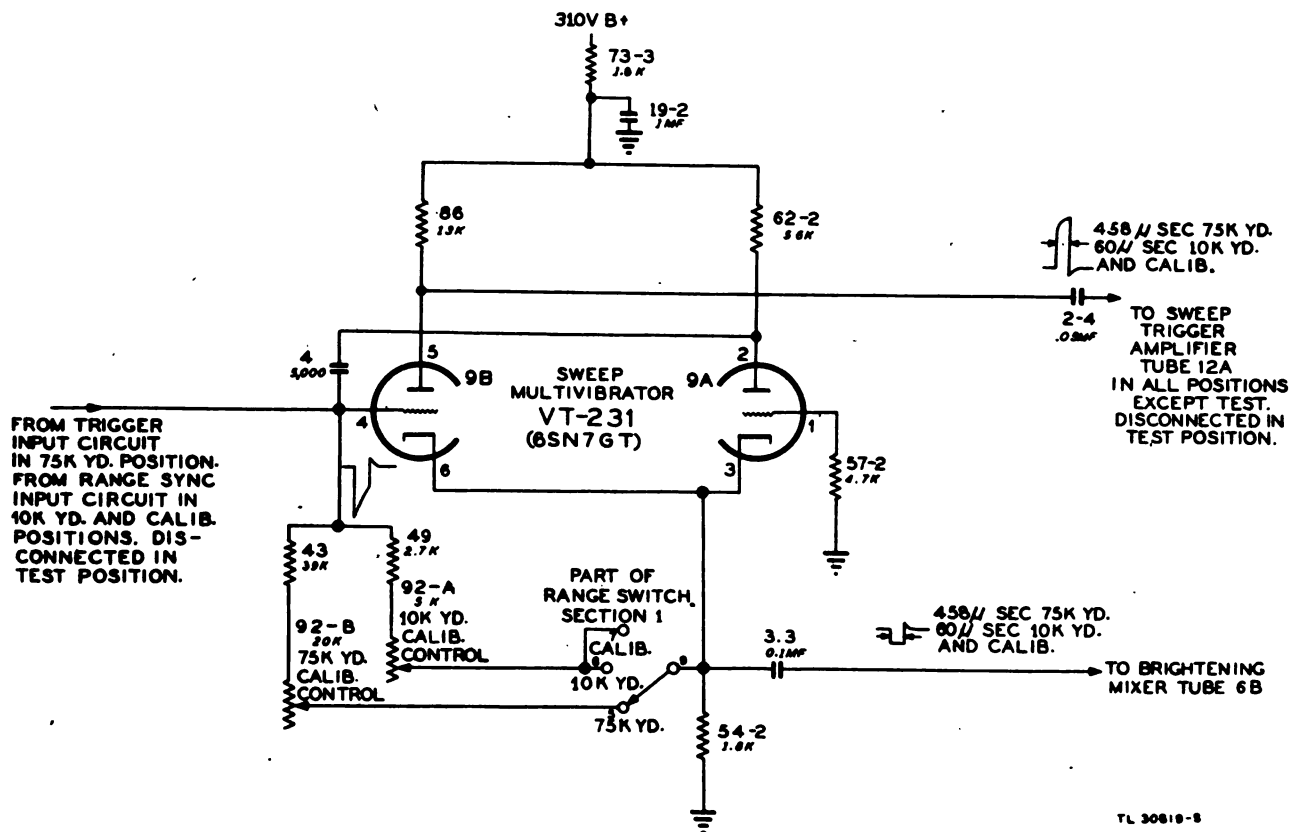

Figure 44. Sweep multivibrator.
### 39. SWEEP MULTIVIBRATOR (fig. 44).
2B (75 K YD. switch position) or from the plate of range sync amplifier tube 8B (10 K YD. and CALIB. switch positions). In both cases, the input which affects the operation of the sweep multivibrator is a sharp negative pip. The negative pip inputs, in the case of the 75 K YD. switch position, correspond in time with the leading edges of the 1st, 9th, 17th, 25th, etc., trigger sync pulses, because of the action of the division multivibrator. The negative pip inputs, in the case of the 10 K YD. and CALIB. switch positions, correspond in time with the leading edges of each range sync pulse. The waveform shown at the grid of tube 9B (fig. 44) is that which appears on a test oscilloscope and is a result of the sweep multivibrator action. This waveform is not the waveform of the negative triggering pips.
(4) The time constant of capacitor 4 in series with the plate resistance of tube 9A and the resistance network selected by part of section 1 of the range switch (fig. 44) determines the duration of the reversed condition of operation.